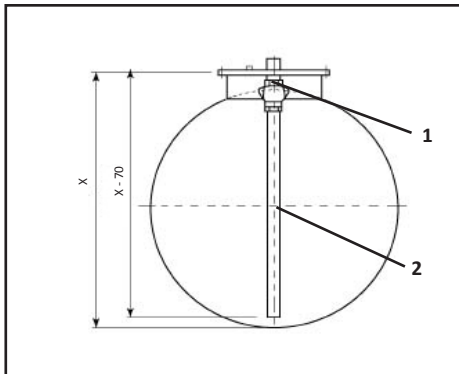

Figure 1
- 3 : Connect the pipe (postion 2/Figure 1) to the ball valve :